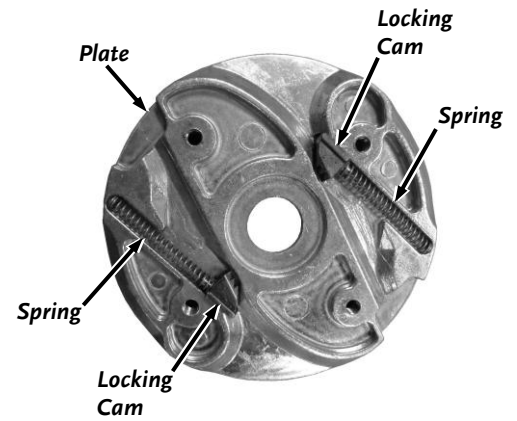

Figure 35
6. Reinstall the Springs and Locking Cams into the middle and bottom Plates (**Figure 35**).